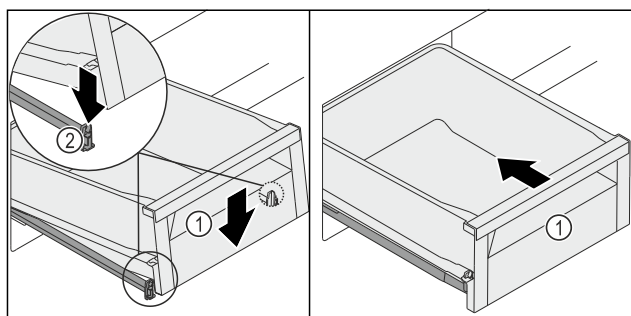

Fig. 125
- Lower the front of the drawer Fig. 125 (1) so that the drawer slides into the clamp Fig. 125 (2) on the left and right.
- The drawer Fig. 125 (1) latches in audibly.
- Push in the drawer Fig. 125 (1).